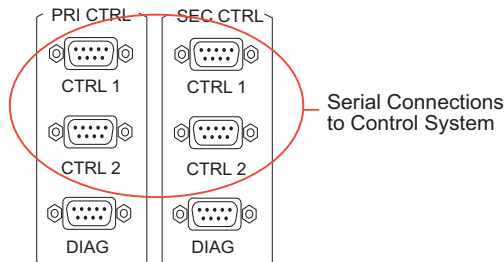

Figure 3-13. Serial Connections to Router Control System (Rear View)
- 1 Locate the serial control connections on the rear of the router, as shown in Figure 3-13. Serial control connections are labeled 'PRI CTRL' for the primary control card and 'SEC CTRL' for the secondary control card.